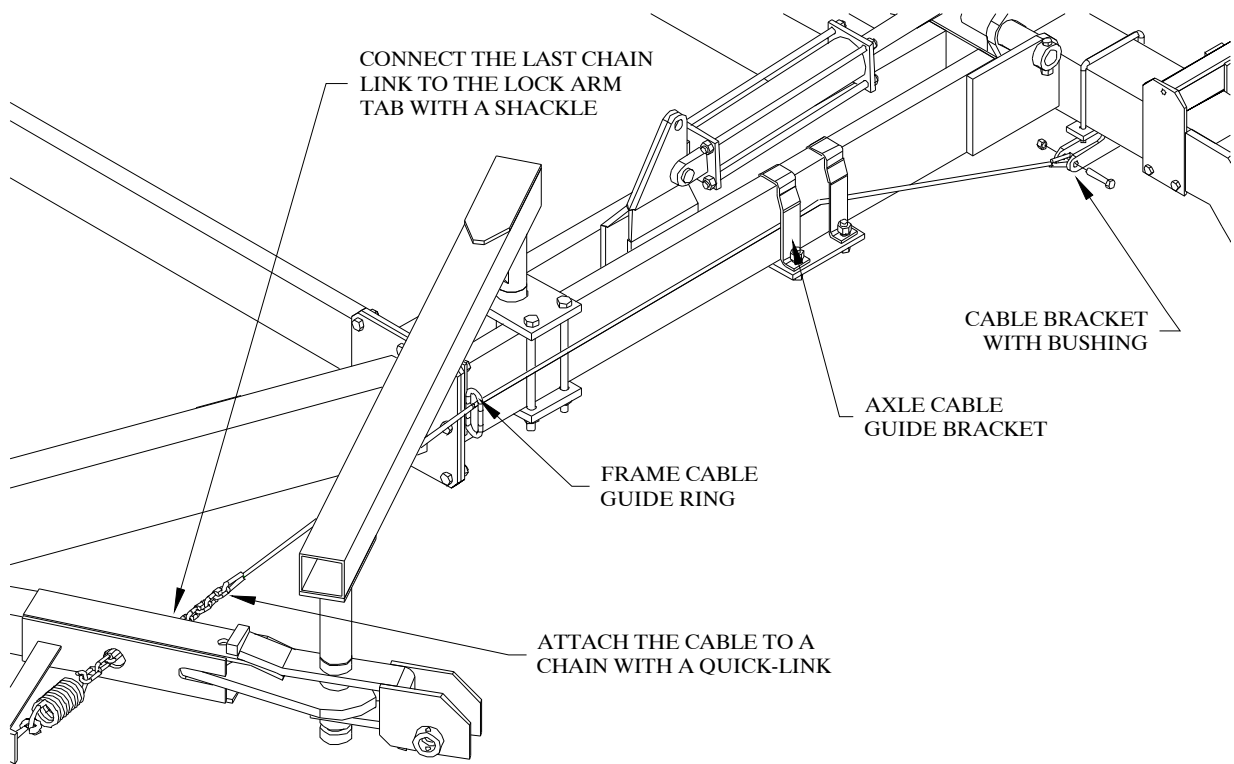

Figure 31
1. Slide a 3/8" cable through the frame cable guide ring and the axle cable guide bracket. Refer to Figure 31.